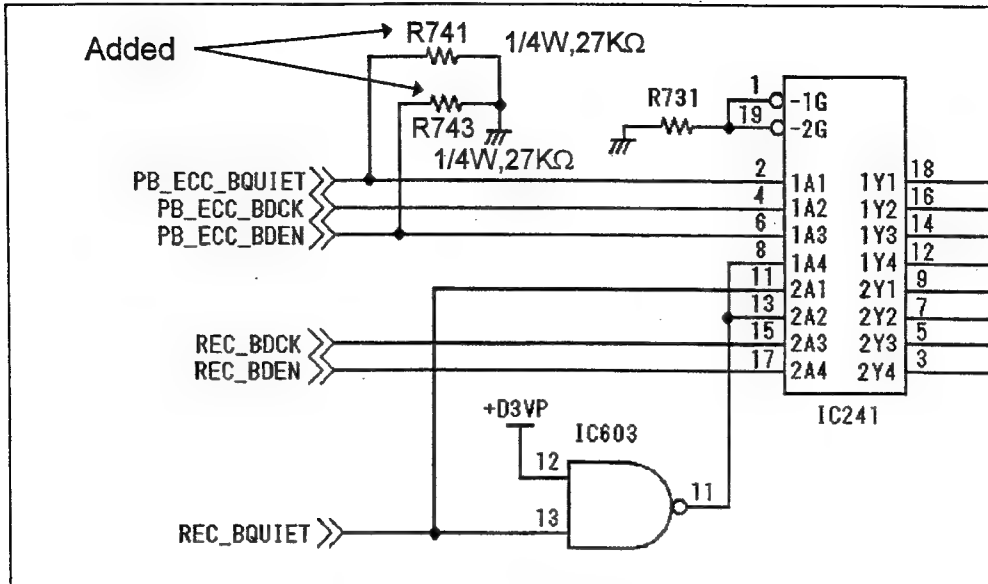

Fig. 1 Page 2-105 (B-2)
- 1). Add a resistor R3741 (1/4W, 27K Ω) between pins #2 and #10 of IC3241 on the foil side as shown in figures 1 and 2.
- 3). Add a resistor R3743 (1/4W, 27K Ω) between pins #6 and #10 of IC3241 on the foil side as shown in figures 1 and 2.